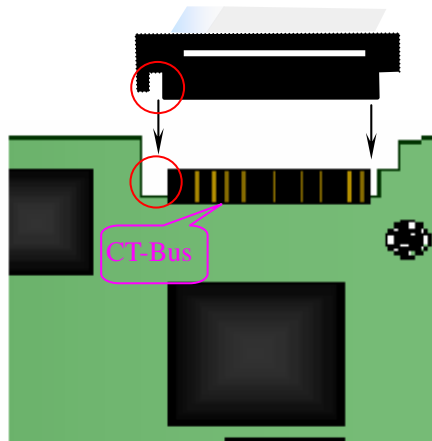

Figure 2-11 Connection of H.100 Bus
- ① See Figure 2-11 for correct insertion. Do not twist or insert in the opposite direction.